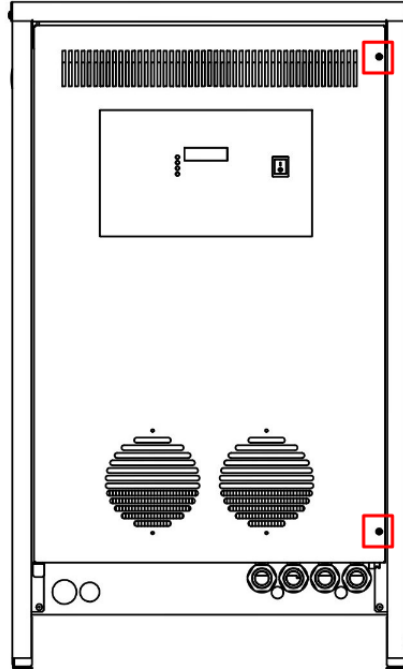

Figure 10: Reference photo of front door of the charger, unscrew the screws indicated in red.
1. With a Phillips screwdriver, unscrew the 2x Phillips screws on the front door of the charger (Figure 10).